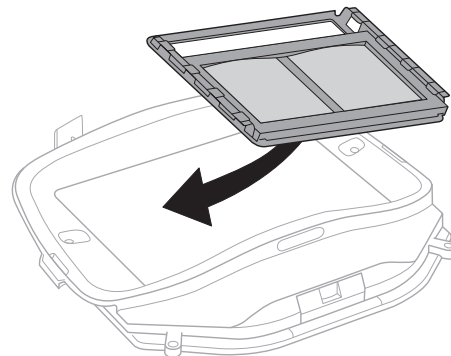

Fig. 27b
- Set the lens holder onto the front of the ADF (Fig. 27b).